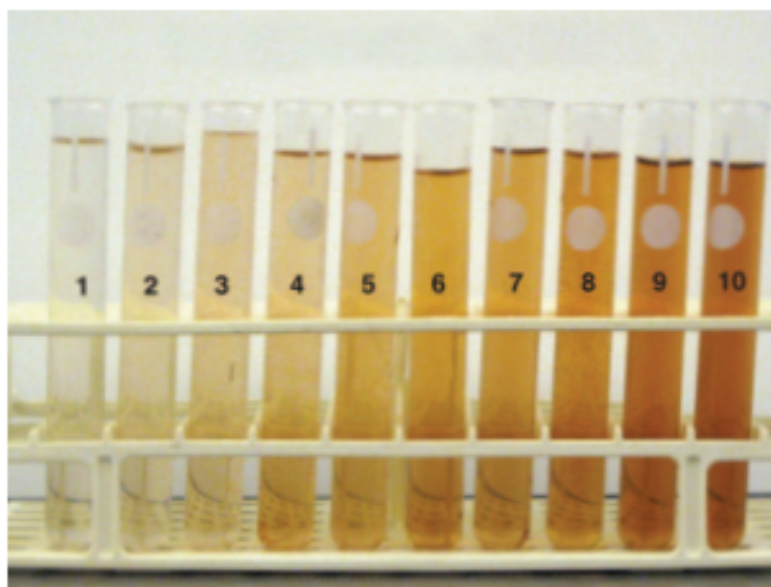

Figure 1. Turnip Peroxidase Color Chart
Qualifying color is a difficult task, but a series of dilutions can be made and then combined on a palette, which can represent the relative changes occurring during the reaction. A color palette/chart ranging from 1 to 10 (Figure 1) is sufficient to compare relative amounts of oxygen produced. Alternatively, the color change can be recorded as a change in absorbency using a variety of available meters, such as a spectrophotometer or a probe system. (Information about the use of spectrophotometers and/or probe systems is found in the Additional Information section of this investigation.)
Step 5 Use the color palette/chart (Figure 1) to help you quantify changes in color over time. Graph your data in your laboratory notebook.
Step 4 Use the palette/color chart (Figure 1) to help you quantify the changes you observe. Graph your data as color intensity versus pH. What conclusions can you draw from your results?